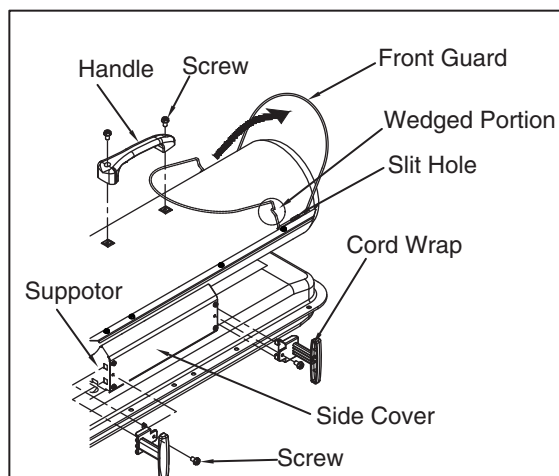

Figure 6. Assembling Handle & Cord Wrap
- 2) Align the holes in the upper housing with two mounting holes on the handle as shown in Figure 6.
- 4) Insert cord wrap into the rectangle holes on the supportor and align the hole on the cord wrap with the mounting hole on the side cover as shown in Figure 6.